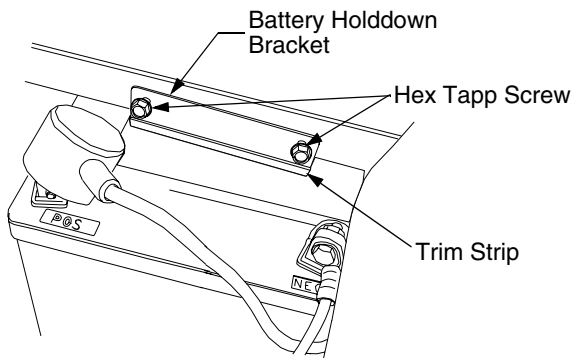

Figure 28
- Remove the two hex tapping screws from the battery holddown bracket and remove the bracket. Use care to avoid losing the trim strip from the bottom of the bracket. See Figure 28.